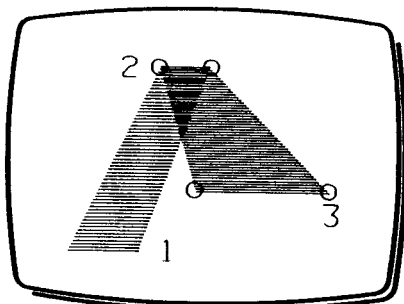

Fig 3
- 8 **Press and release T to draw another nib stroke. The screen should resemble Fig 3.**